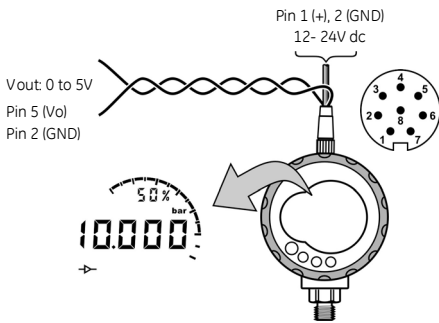

Figure 3: Example configuration: Vout
1. Connect the instrument (Figure 3).